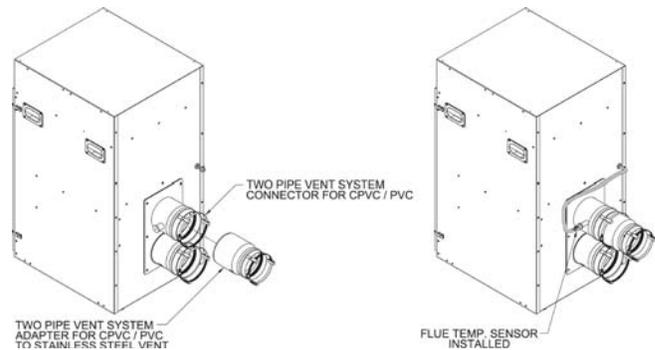

Figure 16: Field Installation of Two-Pipe Vent System Adapter for Stainless Steel Venting.” See also Figures 9 and 16.
- Push and twist PVC to stainless steel adapter into two-pipe vent system connector vent or combustion air supply port until bottomed out. See Figure 16.